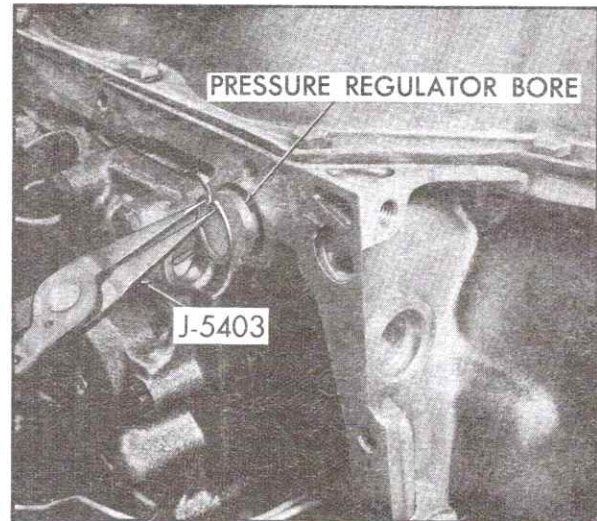

Fig. 7-207 Installing Pressure Regulator Valve
e. Using a screwdriver or steel rod, compress regulator boost valve bushing against pressure regulator spring until it is beyond snap ring groove, and install snap ring using Snap Ring Pliers, J-5403 (#21), Fig. 7-207.